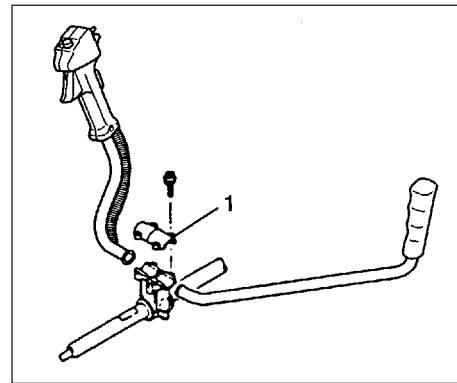

Fig.1-3
Installation of handle (Fig. 1-3, 3B)
Remove the handle bracket (1) from the assembly. (Fig. 1-3)